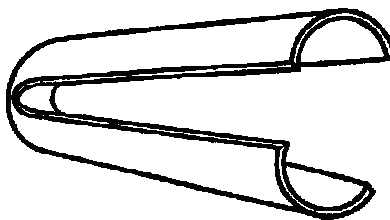

Figure 3-14. Fold SAM splint
- b. Fold the splint. Refer to Figure 3-14.